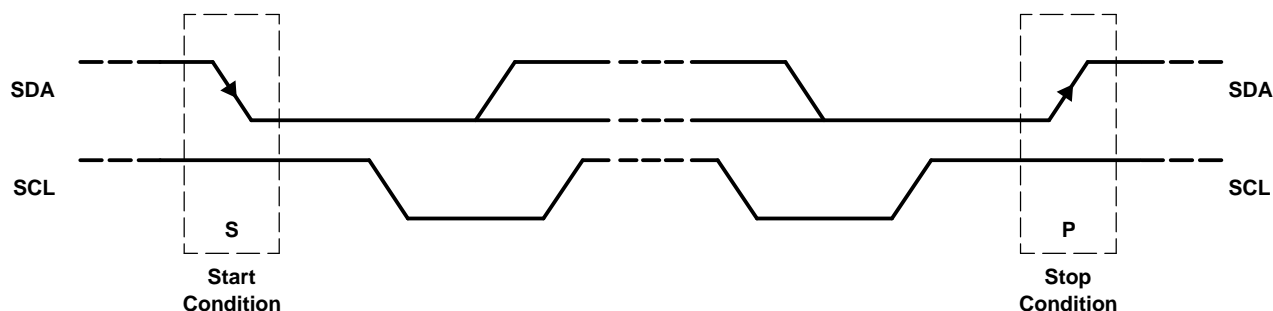

Figure 41. START and STOP Conditions
- The *master* initiates data transfer by generating a *start condition*. The *start condition* is when a high-to-low transition occurs on the SDA line while SCL is high, as shown in Figure 41. All I²C-compatible devices should recognize a *start condition*.
- To signal the end of the data transfer, the master generates a *stop condition* by pulling the SDA line from low to high while the SCL line is high (see Figure 41). This releases the bus and stops the communication link with the addressed slave. All I²C compatible devices must recognize the stop condition. Upon the receipt of a *stop condition*, all devices know that the bus is released, and they wait for a *start condition* followed by a matching address.